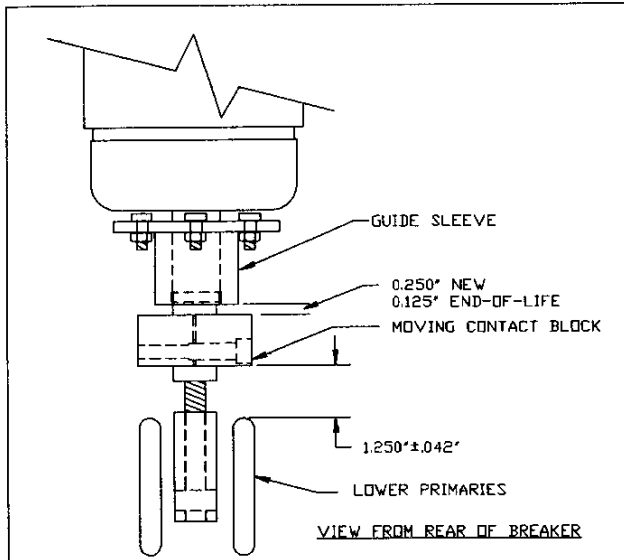

Figure 25. Contact Erosion Measurements
gap between the contact overtravel nuts and the contact spring yokes. See Figure 25.
At each inspection, the vacuum interrupters should be checked for contact erosion. The breaker must be closed for this check. Each new vacuum interrupter is set with a gap of 0.250 inch between the lower contact block and the guide sleeve. As the contacts erode with use, this gap will decrease. When the gap reaches 0.125 inch the interrupter should be replaced. See Figure 25.
- With closed contacts on a new vacuum interrupter, the bottom of the moving contact block should be 1.250 ± 0.042 " above the top of the lower main primary disconnect bars. See Figure 25.
- Set the height of the interrupter in the breaker by rotating the interrupter. Be careful to turn the interrupter by its ceramic body. Do not attempt to turn it by the lower contact block or the movable stem, as this might result in damage to the interrupter's bellows and loss of vacuum. Rotate the interrupter until the lower surface of the lower contact block is 1.250" above the upper edge of the lower primaries. See Figure 25. Then rotate the interrupter as necessary to position the long edges of the block parallel to the lower primaries and the slot in the lower contact block at the rear of the breaker. Recheck the dimension between the lower surface of the contact block and the upper surface of the lower primaries. This dimension should be 1.250"±0.042".
- s. Set the height of the operating yoke so that the bottom of the pin is 1.500 ± 0.015 " above the bottom edge of the lower primaries. See Figure 25.
(2) Sliding Contact Finger Assembly